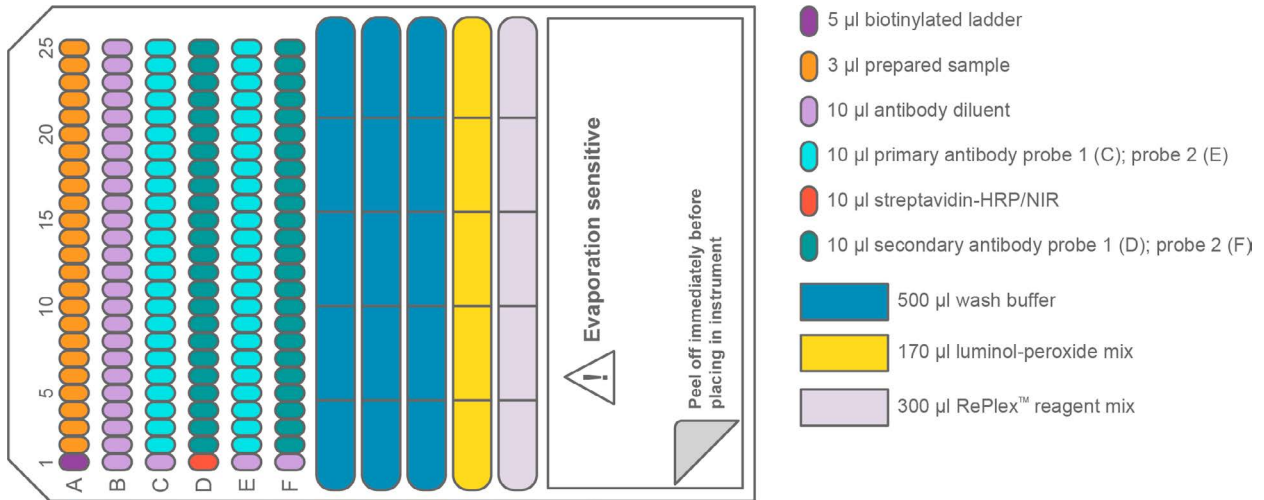

Figure 3: How to fill the Simple Western Jess plate for RePlex chemiluminescence analysis.
Equip ASSIST PLUS with the 0.5-300 μ l D-ONE, and run the VIALAB program 'Jess_plate_setup_RePlex'. D-ONE and ASSIST PLUS with 12.5 μ l long, sterile, filter GRIPTIPS transfers 10 μ l of antibody diluent from a 2 ml tube in position B1 (**Figure 2**, lavender) to wells B1-B25, C1, E1 and F1 of the Jess plate (**Figure 3**) in position C. A 1 μ l pre- and post-dispense guarantees precise pipetting while preventing bubble creation during dispensing. By automatically changing GRIPTIPS between different reagents or samples, D-ONE transfers 10 μ l of primary antibody probe 1 from a 1.5 ml microcentrifuge tube in B2 (**Figure 2**, light green-1) to wells C2-C25 (**Figure 3**) of the Jess plate in position C (**Figure 4a**). From the second 2 ml screw cap vial in B1 (**Figure 2**, red), D-ONE transfers 10 μ l of streptavidin-HRP/NIR to well D1 (**Figure 3**). Wells D2 to D25 (**Figure 3**) are filled with 10 μ l secondary antibody probe 1 from a 1.5 ml microcentrifuge tube in B2 (**Figure 2**, green-1). 10 μ l primary antibody probe 2 from position B2 (**Figure 2**, light green-2) is transferred to wells E2 to E25 (**Figure 3**), and 10 μ l secondary antibody probe 2 from B2 (**Figure 2**, green-2) is transferred to wells F2 to F25 (**Figure 3**).
With 300 μ l sterile, filter GRIPTIPS, D-ONE transfers 500 μ l of wash buffer (**Figure 2**, blue) from the 25 ml reservoir on position A to the Jess plate compartments in 2 steps (**Figure 4b**), as indicated in **Figure 3**. A slow speed (5) prevents bubble creation during buffer dispensing. Afterwards, 170 μ l of luminol-peroxide mix is transferred from the 2 ml tube in B1 (**Figure 5**, yellow), and 300 μ l of RePlex reagent mix from another 2 ml tube in B1 (**Figure 5**, pink) to the compartments indicated in **Figure 3**. D-ONE then transfers the RePlex reagent mix in 2 steps, with a pre- and post-dispense of 10 μ l to prevent bubble creation during dispensing.
5 μ l of biotinylated ladder is transferred from a 0.5 ml microcentrifuge tube in position B3 (**Figure 2**, violet) to well A1 (**Figure 3**). As indicated by the arrow in **Figure 2**, D-ONE transfers 3 μ l of prepared sample (**Figure 2**, orange) from each 0.5 ml microcentrifuge tube in positions B4 to B6 (**Figure 2**, orange) to wells A2-A25 (**Figure 3**). Fast dispensing (speed 10) increases the accuracy for small volumes. The pipette then instructs the user to centrifuge the plate for 5 minutes at 2500 rpm, before proceeding with Simple Western Jess protein separation and immunodetection.